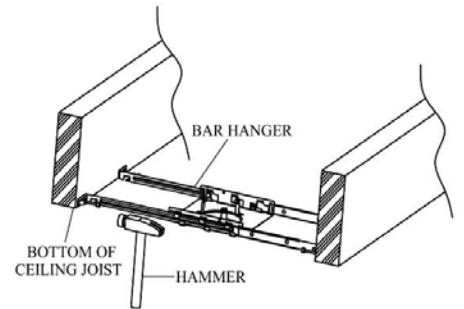

Figure 4
2. Install NEW CONSTRUCTION ADAPTER(purchased separately) by positioning the LKABH BAR HANGERS (purchased separately) between the ceiling joists and nailing in the attached nails to secure in place. (Figure 4 & 5)